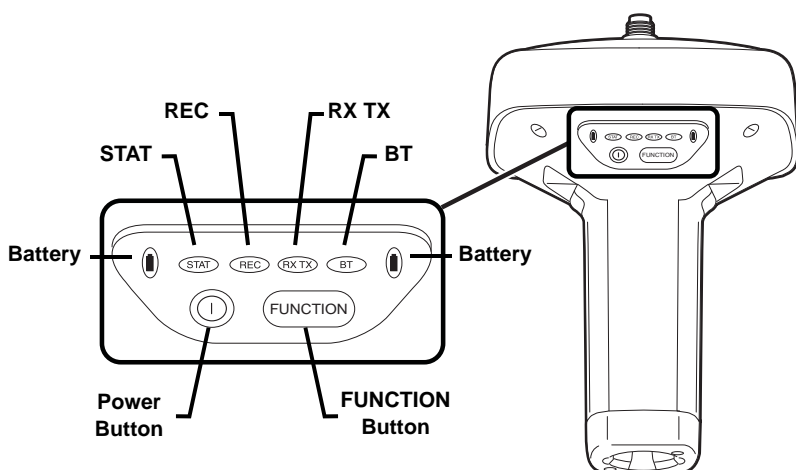

Figure 3-39. MINTER
3. On the *Connection Parameters* dialog box, enable RTS/CTS handshaking (Figure 3-39).